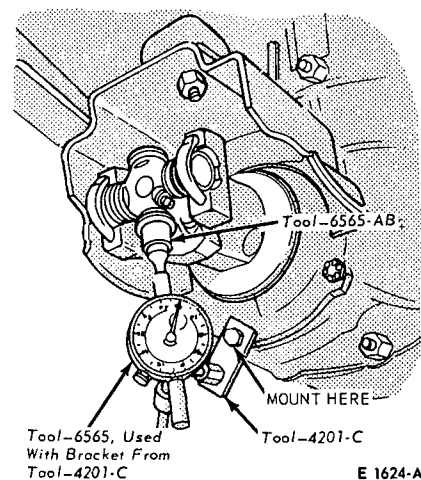

FIG. 14—Cross Shaft Runout Check
posed journal (Fig. 14). Be sure the end surface of the exposed journal is perpendicular to the indicator cup-type adapter. This requires that the cross-shaft be moved fore and aft on the flange bearing cups. Note the point at which the indicator hand reverses direction. Rotate the flange assembly side-to-side until the cross-shaft is perpendicular to the pinion shaft axis, and the indicator hand reverses direction. Zero the dial indicator and check the zero point again by slightly moving the cross-shaft fore and aft, then rotate the companion flange from side-to-side.
8. With the indicator at zero, carefully retract the dial stem and rotate the flange 180°. Rotate the cross-shaft 180° on the flange bearing cups to position the exposed journal under the dial indicator adapter. Rock the cross-shaft fore and aft and the companion flange side-to-side to establish the point at which the indicator hand reverses direction. This will determine the driveshaft universal cross-shaft runout. Record this reading (Fig. 14).